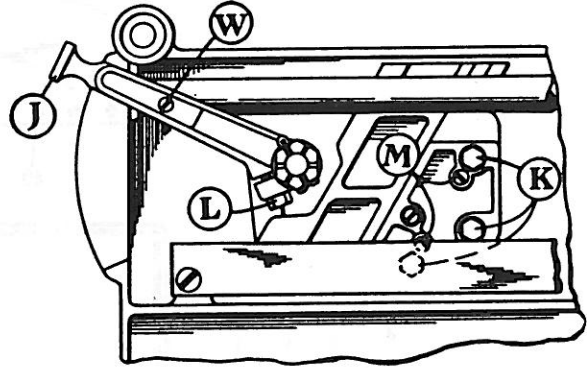

Fig. 3
(A) **To Adjust Zero Point** When the slice adjusting lever J is at the extreme right or zero position the gage plate should lie in the same plane as the face of the knife. If it does not, adjust as follows: First, turn the machine up on its side to expose the underneath parts, then loosen the screw L shown in (Fig. 3). Move the gage plate up to the level of the knife face, and the lever to zero, then tighten screw L.
(B) **To take Up Looseness in Gage Plate** Turn the machine on its side, loosen the three screws K slightly and then turn each of the two screws M a fraction of a turn to take up the looseness. Be sure to tighten the screws K again. (See Fig. 3).
(E) **To Tighten Slice Adjustment**, turn screw W, (Fig. 3).